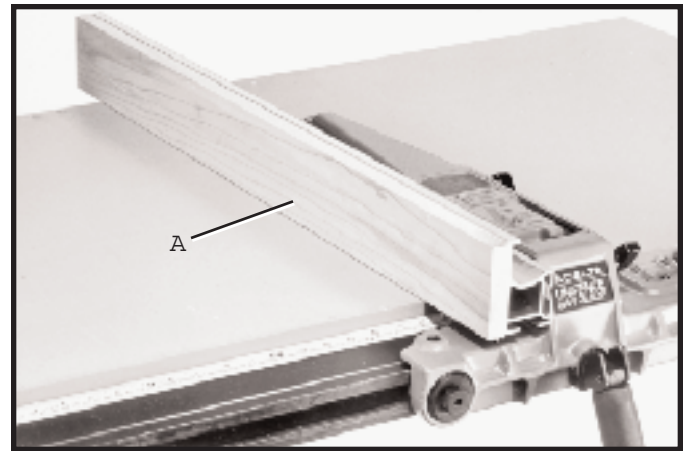

Fig. 68
It is necessary when performing special operations such as when using the moulding cutterhead to add wood facing (A) Fig. 68, to one side of the rip fence as shown. The wood facing is attached to the fence with wood screws through holes drilled in the fence. 3/4 inch stock is suitable for most work although an occasional job may require one inch facing.